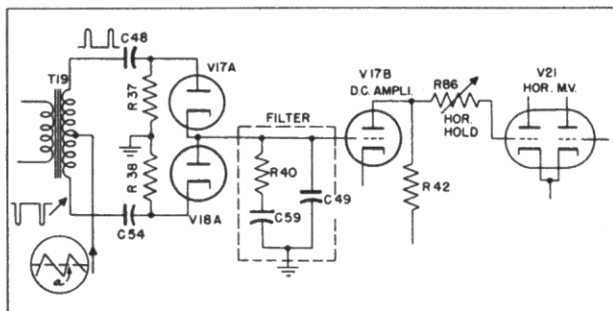

Fig. 6. Hor. Multivibrator and Sync
**5. HORIZONTAL MULTIVIBRATOR AND AFC SYNC (SEE FIGURE 6)**—The horizontal sawtooth oscillator makes use of a Type 6SN7GT tube, V21, in a conventional cathode-coupled multivibrator circuit. Instead of its frequency being controlled directly by the horizontal sync pulses, it is controlled by a d-c voltage on its controlling grid, the d-c voltage being a resultant of the phase error between the incoming sync signal and a sawtooth voltage derived from the output of the horizontal sweep amplifier. This voltage is called an automatic frequency control (AFC) voltage.
The AFC voltage is developed by the diode-connected triodes V17A and V18A by mixing the horizontal sync pulses at the secondary of transformer T19 with a sawtooth voltage waveform derived at the output of the sweep amplifier tube, V22. When the sync pulse occurs at the time "a" shown in the sawtooth waveform drawing in Figure 6, no voltage will be developed at the output of the filter. However, if the multivibrator runs faster or slower so that the pulse falls at a point other than at "a," a